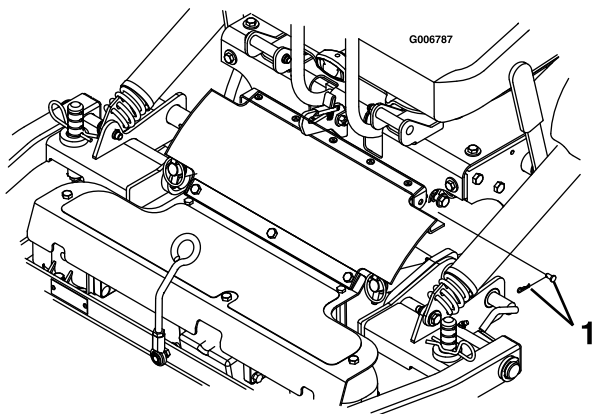

Figure 71
8. Remove the hairpin cotter and clevis pin from both sides of the PTO guard (Figure 71).
7. Align the upper portion of the rubber PTO guard to the tabs on the front of the console and secure with a clevis pin and hairpin cotter on each side (Figure 71).